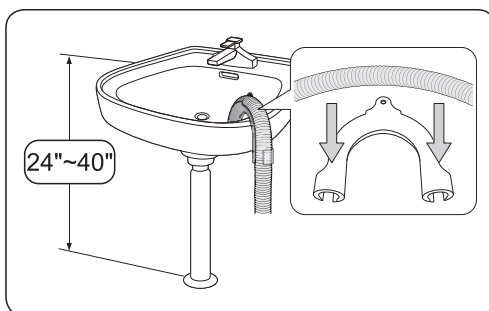

Fig. 8
- Hook the U-Connector over the side or stand pipe (Fig 8.)